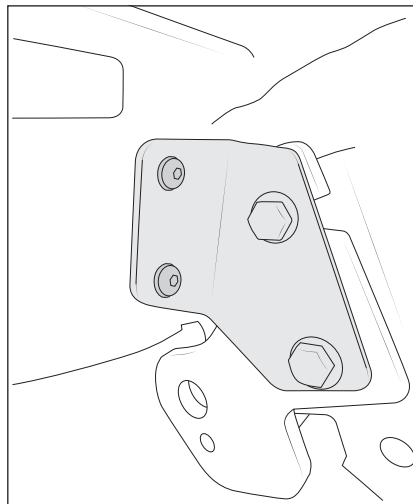

Figure 25
2. Install the EX Corner reinforcement bracket (fig. 25).